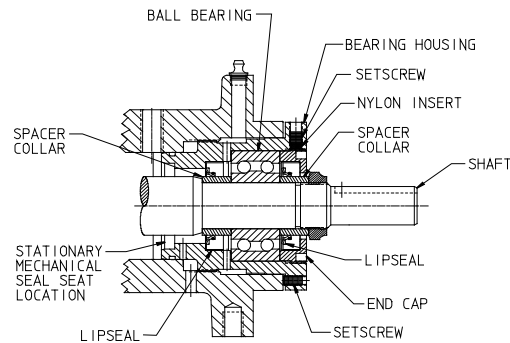

FIGURE 4
4. Loosen the two setscrews in the face of the bearing housing and unthread the bearing housing assembly from the bracket. The end of the bearing housing contains the mechanical seal seat. Avoid damaging this surface. See **FIGURE 4**.
Refer to **FIGURE 4** for bearing housing assembly.
6. Install the lip seal in the bearing housing. See **FIGURE 4** for lip orientation.
8. Install the lip seal in the end cap. See **FIGURE 4** for lip orientation. Thread the end cap into the bearing housing along with the outer bearing spacer collar. Tighten the end cap. Lock the end cap in place with two radial setscrews in the flange of the bearing housing.
See FIGURE 4 on page 3.